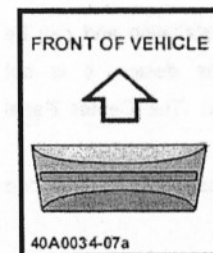
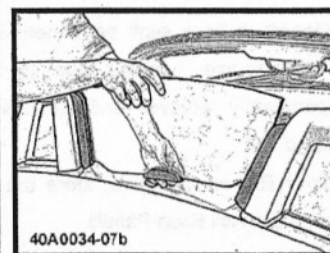

FIGURE 7a
FIGURE 7b
5. Remove the Center Panel ⑤ from its storage pouch. Place the Center Panel Center Bracket ③ over the notch in the bottom of the Center Panel and hold in place (FIGURE 7a). Slide the Center Panel into the grooves in the Center Panel Outboard Brackets and press down until the panel clicks into place (FIGURE 7b). There will be a slight bow in the Center Panel toward the rear of the vehicle, this is intentional. See notes and features at the end of this document.